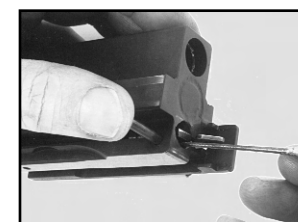

Fig. 31
- 3 • Using any pointed object push the rear end of the firing pin forwards (Fig. 31).